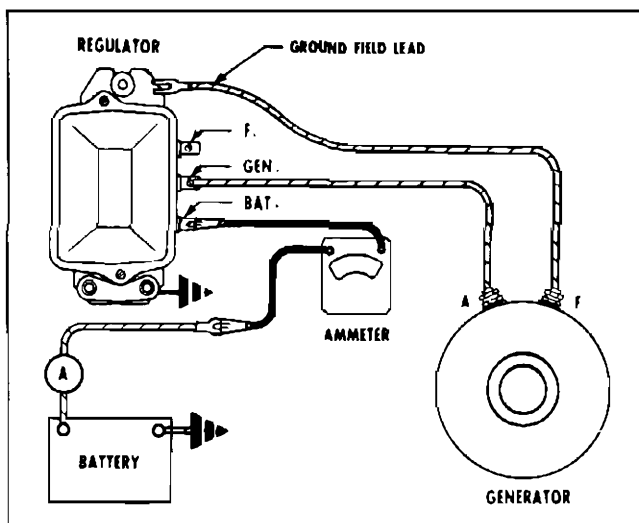

Fig. 11-31 Checking for Oxidized Points on Double Contact Regulator
3. Disconnect field lead from regulator "F" terminal and ground it on regulator base. See Fig. 11-31. If ammeter reading increases more than 2 amperes, oxidized contact points are indicated. Regulator should be removed and contact points cleaned before proceeding to any other regulator tests.